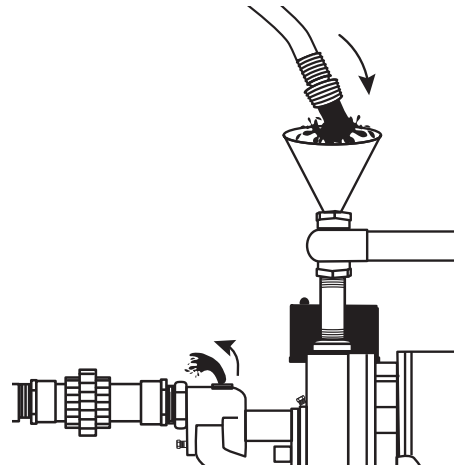

Figure 28 - Add water to pump cavity
2. Slowly fill pump cavity until water comes out of air relief hole on top of the ejector body. (Fig. 28)